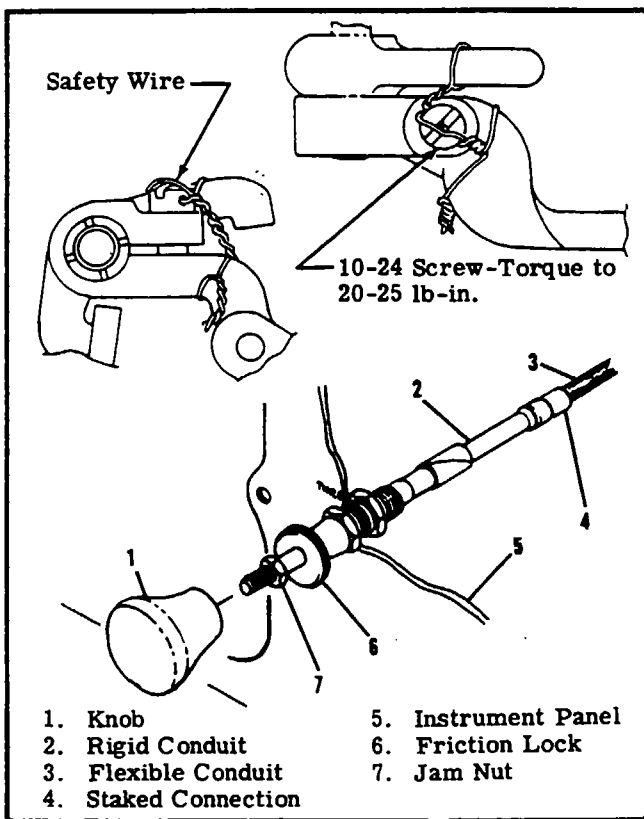

Figure 11-8. Throttle Control
i. Reverse the preceding steps for reinstallation. Use new gaskets when installing carburetor. Rig controls in accordance with paragraphs 11-58, 11-59 and 11-60. Check carburetor throttle arm to idle stop arm attachment for security and proper safetying at each normal engine inspection in accordance with figure 11-8.
Before rigging throttle control shown in figure 11-8, check that staked connection between rigid conduit and flexible conduit is secure. If any indication of looseness or breakage is apparent, install new throttle control before continuing rigging procedure.